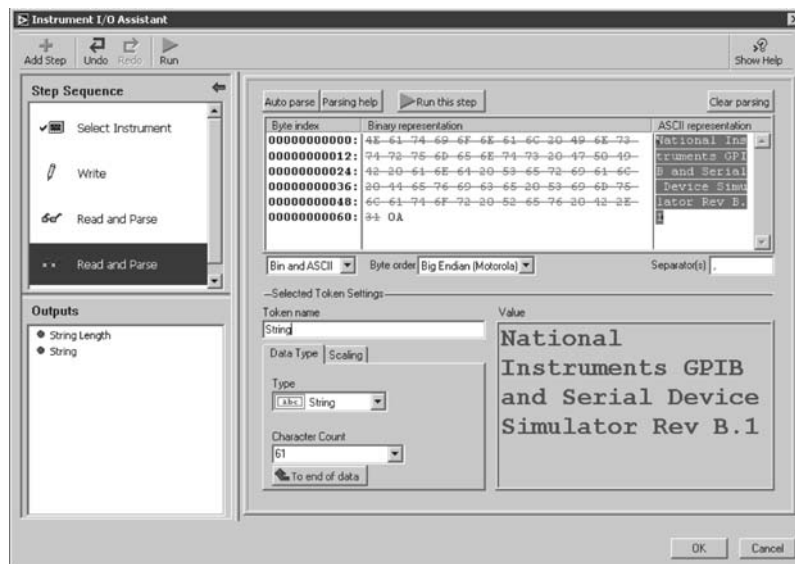

Figure P10.5(c) Configuration window.
- (xi) Rename Token to *String* in the *Token name* text box. The configuration window should be similar to Figure P10.5(c).